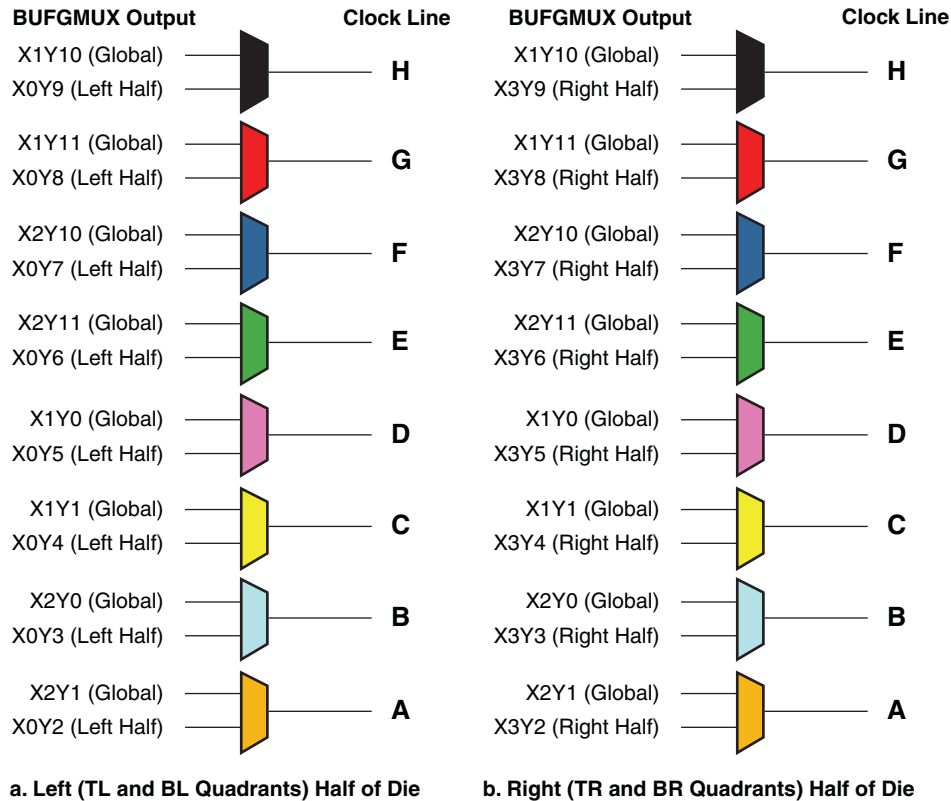

Figure 47: Clock Sources for the Eight Clock Lines within a Clock Quadrant
2. See Figure 45 for specific BUFGMUX locations, and Figure 47 for information on how BUFGMUX elements drive onto a specific clock line within a quadrant.
The clock routing within the FPGA is quadrant-based, as shown in Figure 45. Each clock quadrant supports eight total clock signals, labeled 'A' through 'H' in Table 41 and Figure 47. The clock source for an individual clock line originates either from a global BUFGMUX element along the top and bottom edges or from a BUFGMUX element along the associated edge, as shown in Figure 47. The clock lines feed the synchronous resource elements (CLBs, IOBs, block RAM, multipliers, and DCMs) within the quadrant.
Each of the eight clock signals in a clock quadrant derives either from a global clock signal or a half clock signal. In other words, there are up to 24 total potential clock inputs to the FPGA, eight of which can connect to clocked elements in a single clock quadrant. Figure 47 shows how the clock lines in each quadrant are selected from associated BUFGMUX sources. For example, if quadrant clock 'A' in the bottom left (BL) quadrant originates from BUFGMUX_X2Y1, then the clock signal from BUFGMUX_X0Y2 is unavailable